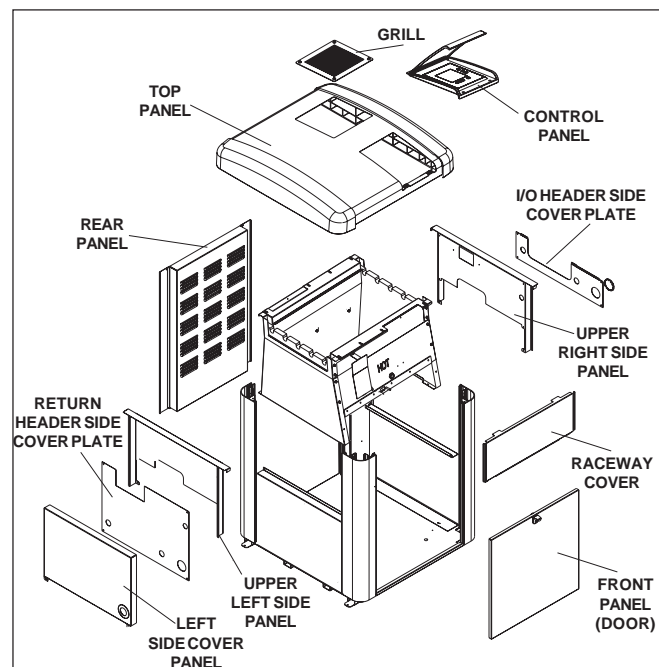

Figure 13. LX/LT Panel Identification
4. Remove the control panel assembly from the top panel (see figure 13 for panel identification). Lift the control panel cover. Remove the two philips head screws located at the front edge of the bezel. Lift the front of the bezel up until the entire assembly comes away from the top. Without removing any wires, slip the control assembly through the hole so that when the top is removed, the control assembly will stay with the heater.